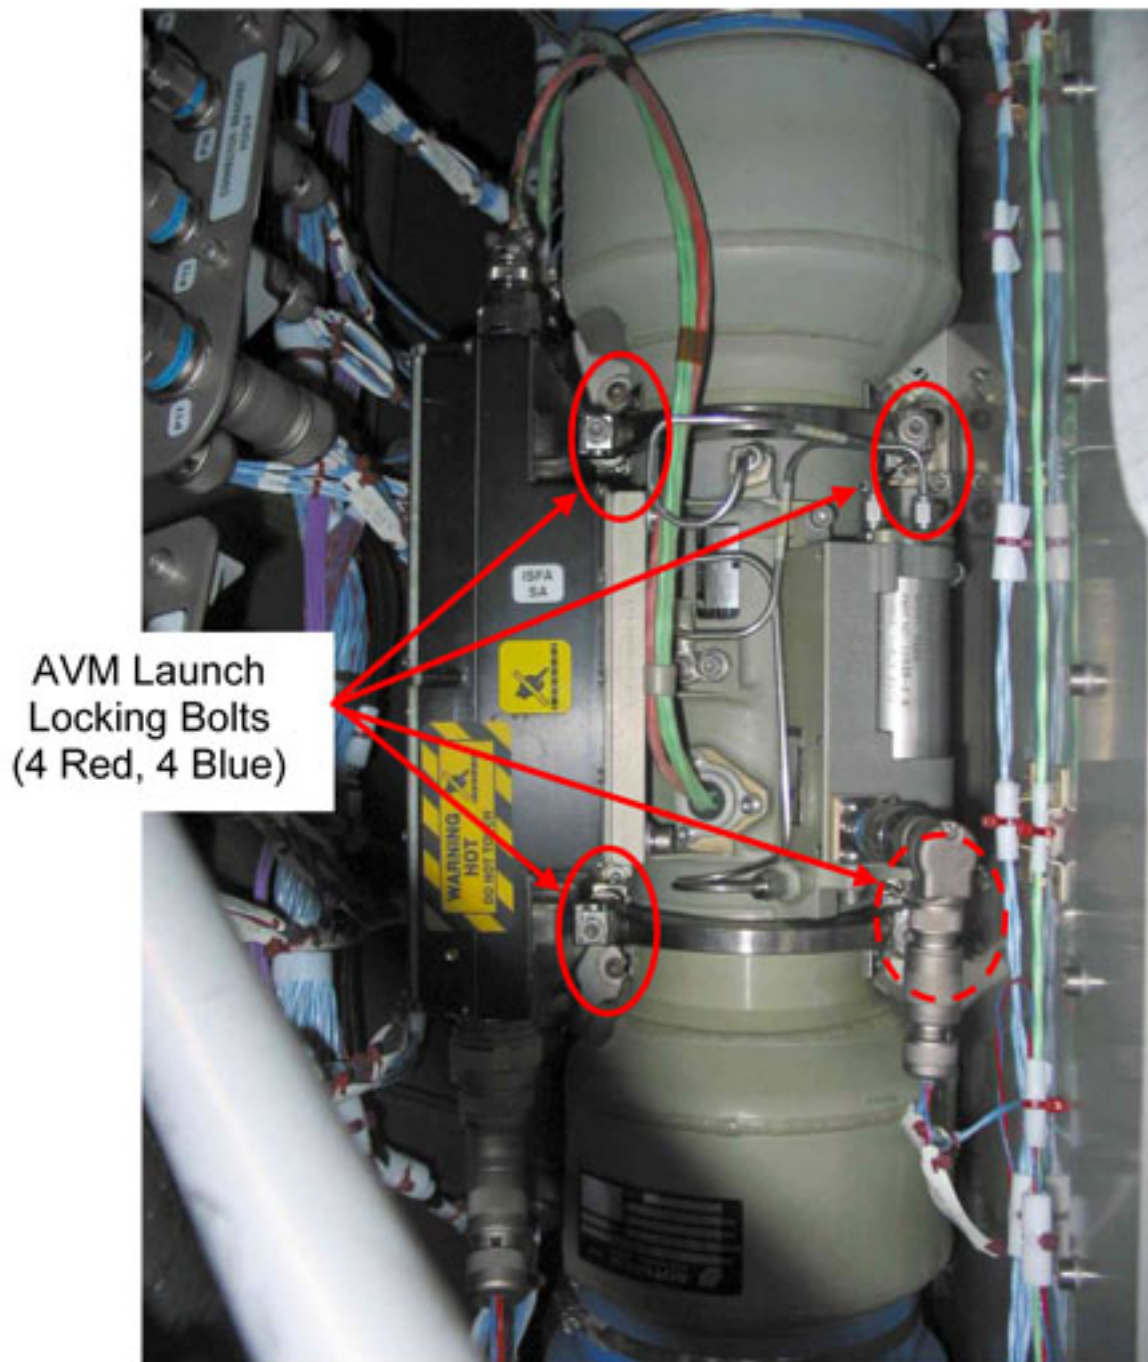
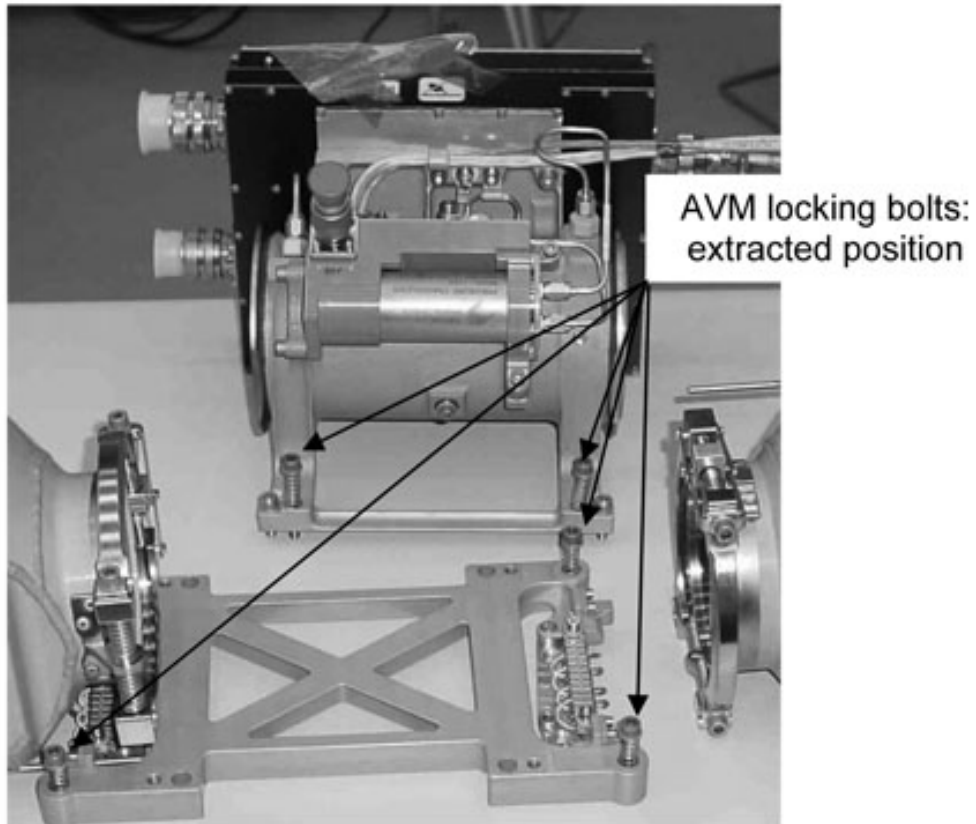

Figure 4: ISFA AVM Launch locking bolts location
Figure 5: view of the ISFA spring loaded locking bolts before installation
3. The 8 AVM locking bolts are spring loaded. When completely loosened, the bolts are pushed up by the spring. Refer to Figure 5.
- 2.1 Release ISFA AVM locking bolts (4 red, 4 blue) (Ratchet Wrench, 1/4"; 10" Extension, 1/4" Drive; M6 (5 mm) Hex Head Driver, 1/4" Drive). Refer to Figure 4 and Figure 5.